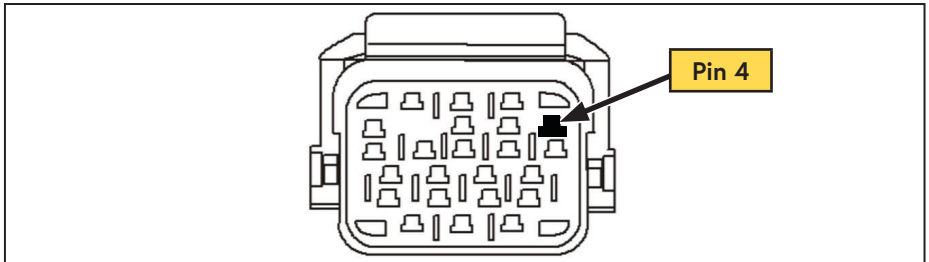

Figure 7 — View from front of connector
- Locate the yellow wire with blue stripe going to pin 4 in the transmission range sensor connector (Figure 7)